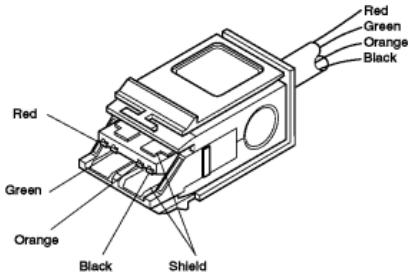
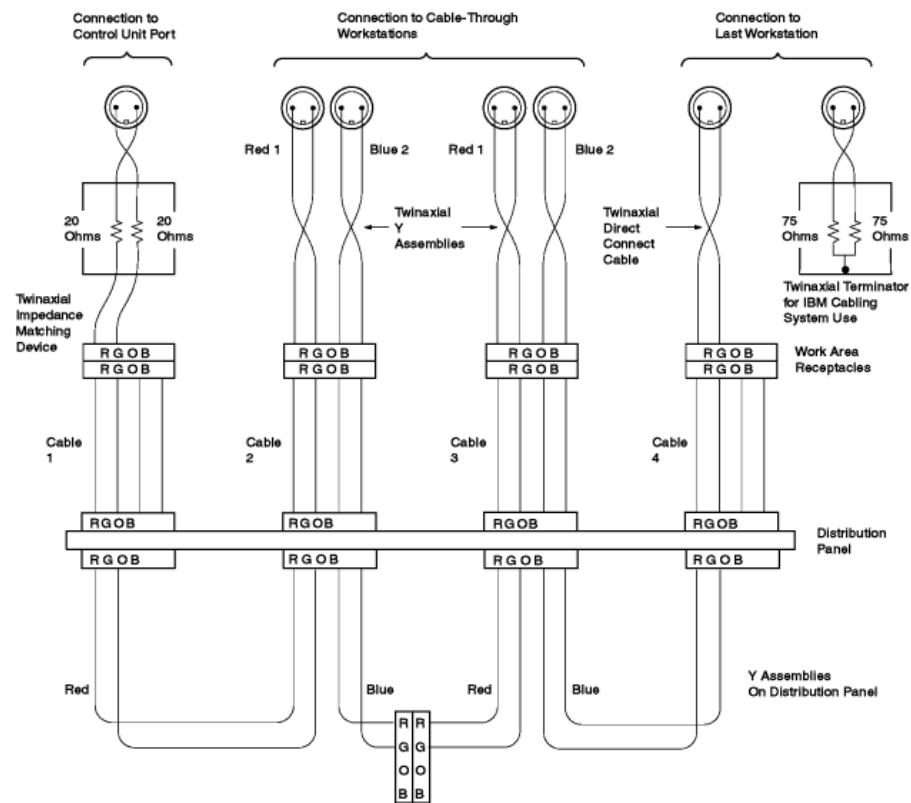

Figure 62. Test Connector
Figure 65. Schematic of a Simple IBM Cabling System Installation Using Twinaxial Accessories
1. Install a test connector (see Figure 62) on the IBM Cabling System connector of the impedance matching device or direct connect cable.
A typical IBM Cabling System data path is shown in Figure 65. A test connector like the one shown in Figure 62 in topic E.2.6.1 is needed for these tests.